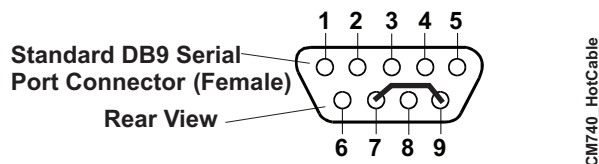

Figure 3-2. Serial Console Jumper
To convert a standard serial cable to a “Hot Cable”, certain pins must be shorted together at the Serial port connector or on the DB9 connector. Short together the RTS (7) and RI (9) pins on either serial port DB9 connector as shown in Figure 3-2.